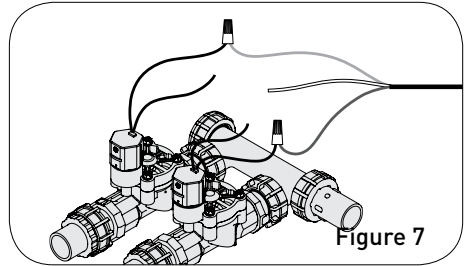

Figure 7
- Note:** The wire should hold firm when lightly pulled. If the wire moves freely, remove the wire and repeat Step 5. (*Figure 7*)